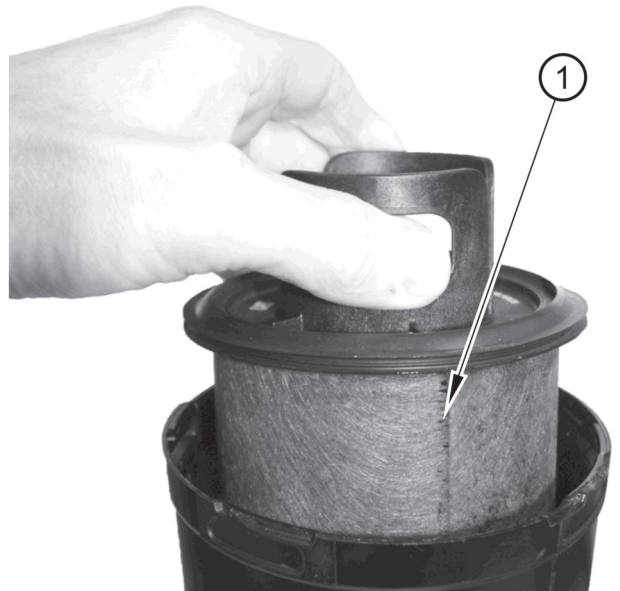

Figure 36
2. Remove the filter canister (figure 36 item 1) and discard.